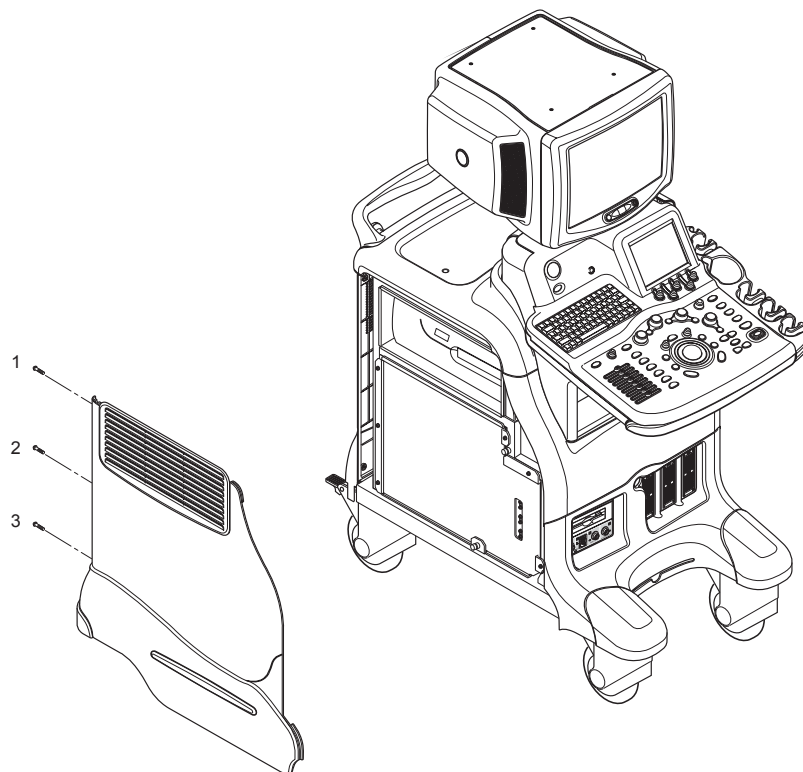

Figure 8-76 Removing the Left Cover
- 3.) Remove the Left Cover. Refer to section Figure 8-76 on page 31.